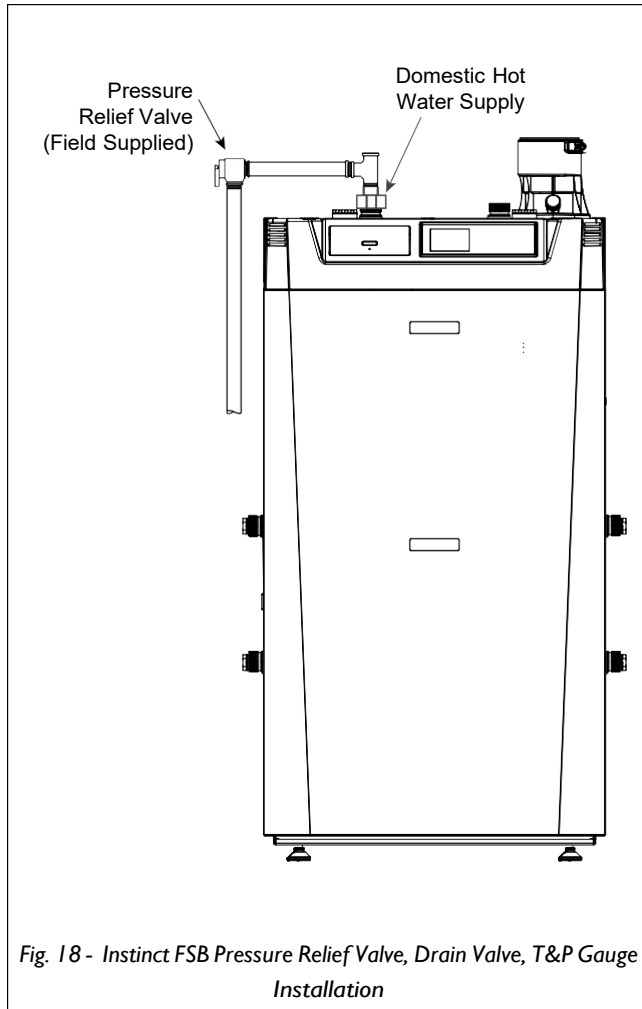

Fig. 18 - Instinct FSB Pressure Relief Valve, Drain Valve, T&P Gauge Installation
Install pressure relief valve onto the domestic piping as shown in Fig 18 below.
1. The Instinct FSB is not supplied with a 150 psi [10bar] pressure relief valve and must be piped using a pressure relief valve connected as shown in Fig. 18 on page 29